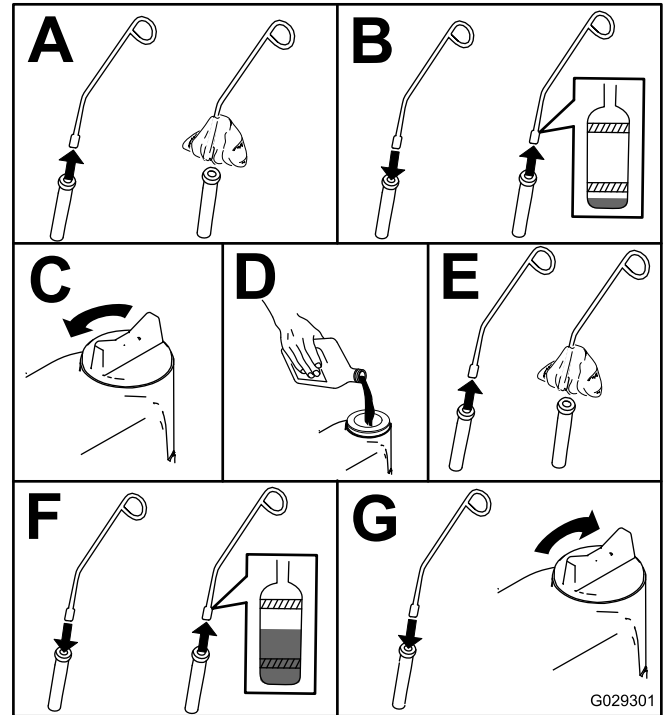

Figure 67
5. Check the engine-oil level as shown in Figure 67.